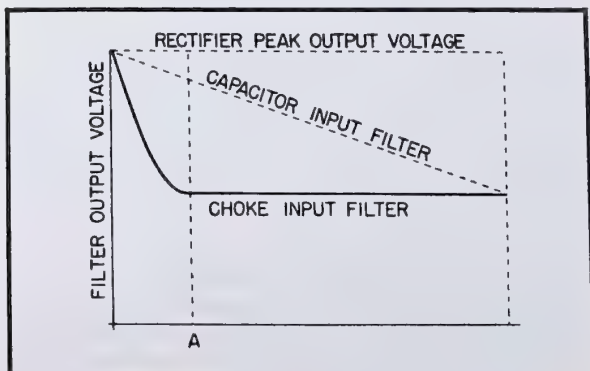

Fig. 2-5. Capacitor vs choke load effects.
3. Better regulation. There is less change from no-load to full-load conditions. Figure 2-5 shows the effect of load on the terminal voltage of both kinds of filters.